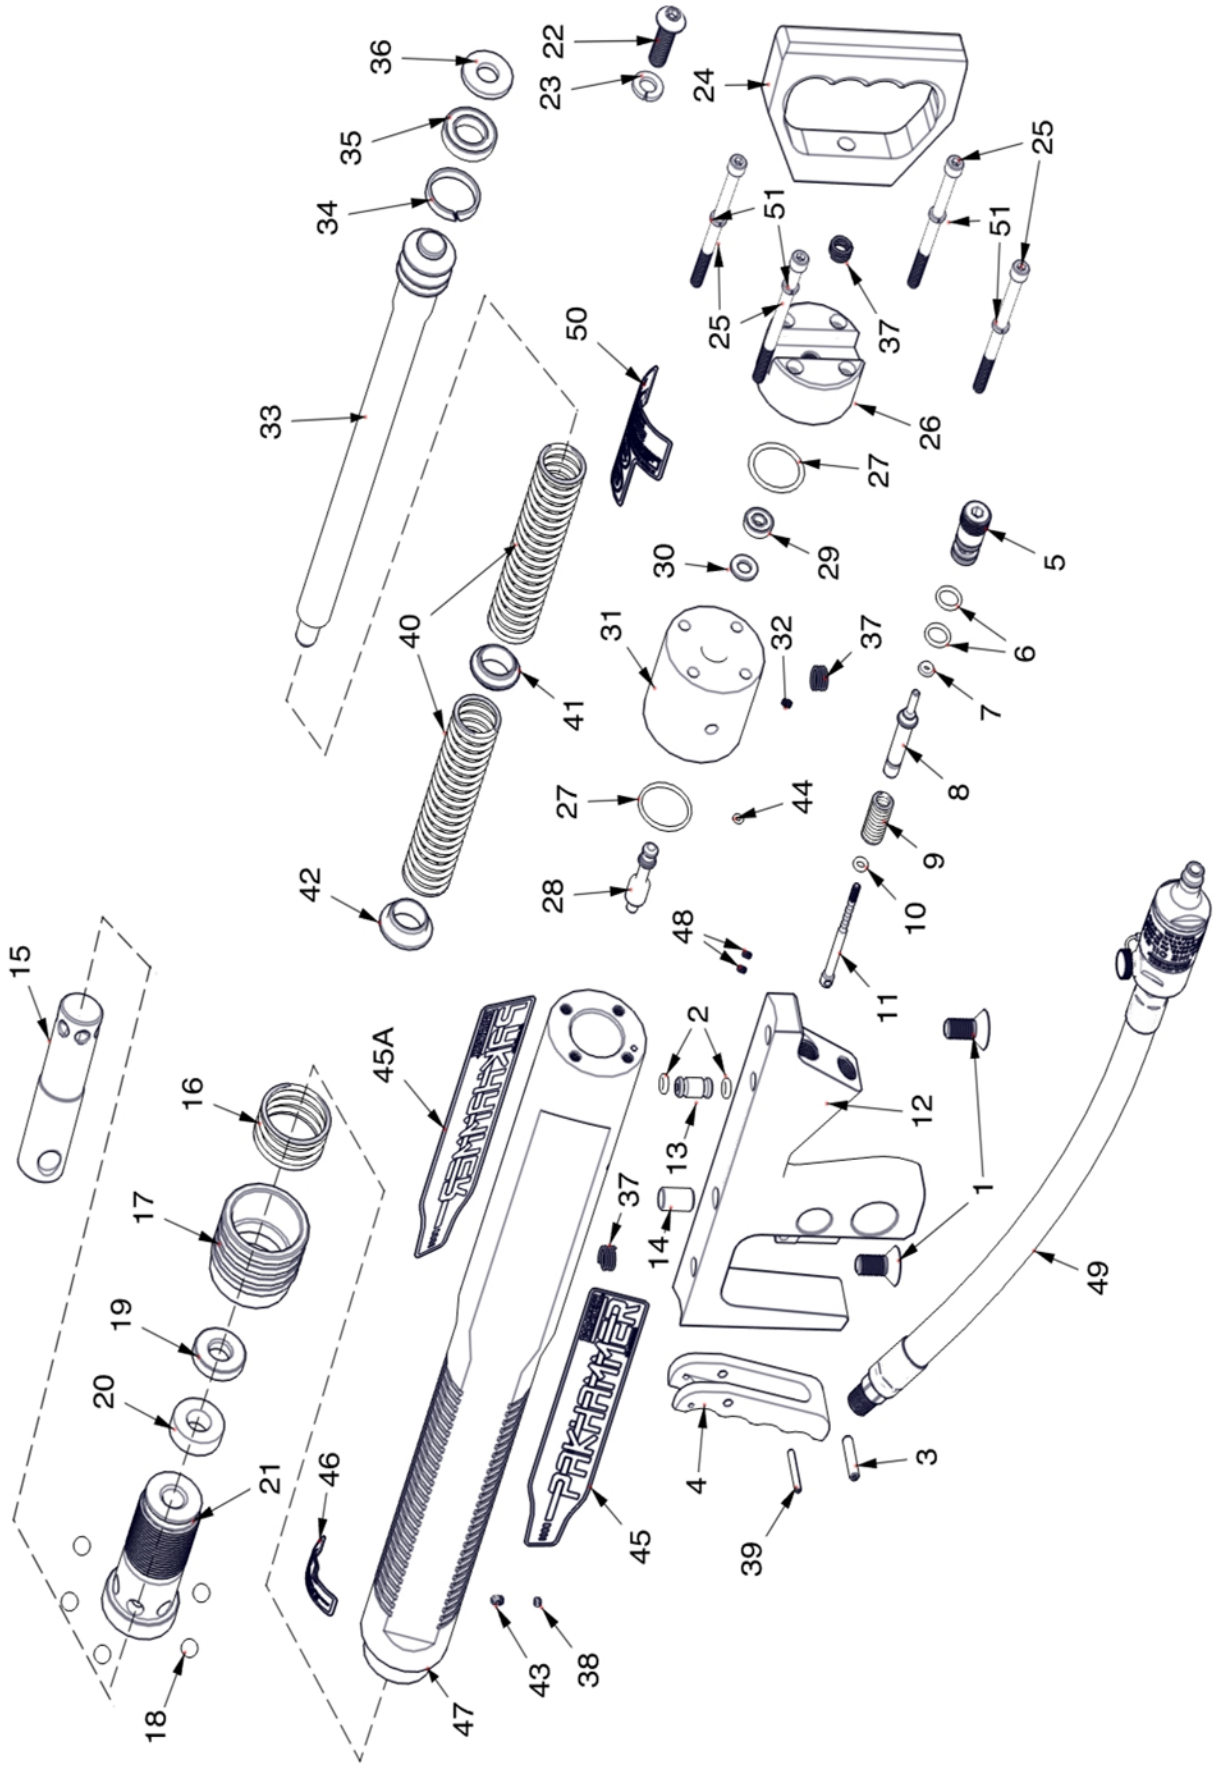

Figure 6-1. Pakhammer Exploded View
Refer to chapter 3 for a theory of operation that is helpful when used in conjunction with the Pakhammer troubleshooting guide given in Table 5-1. Refer to figure 6-1 for parts identified by index numbers.
The only adjustment of the Pakhammer is the assembled distance, 5.120" (130 mm), between the front of trigger link (11, figure 6-1) and the back of trigger valve plunger (8). This adjustment is made only if operation commences with either no "triggering" or when the Pakhammer is "just barely triggered". Screw the trigger link into the trigger valve plunger until the 5.120" (130 mm) dimension is achieved. A minimum amount of trigger lever (4) play should be present before operation commences.
6-4.1 The following procedures describe one method of complete disassembly of the Pakhammer. Work in a clean area and place all disassembled parts on clean shop wipes. All parts subjected to any air passage should exhibit a film of lubricant. If clamping is required, use pads to prevent scratching/scoring/abrading the clamped parts. When repairing the Pakhammer, remove only those parts determined to be broken, cracked, deformed or otherwise damaged. During inspection, parts exhibiting any damage characteristics referenced herein should be replaced with the exception of minor thread damage repair, apply only the procedural steps that are applicable to the work to be performed. Prior to disassembly of the Pakhammer, unscrew the oiler hose assembly from the Pakhammer. Refer to figure 6-1 and proceed as follows: